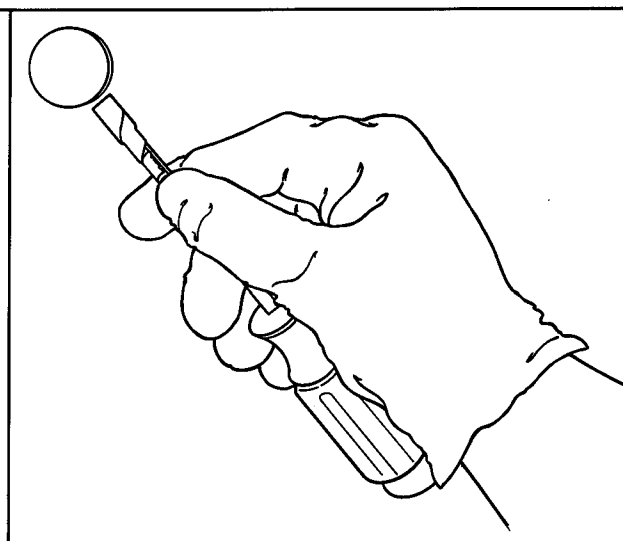

Figure 51
a. On refrigerated meat keeper refrigerators, pull plastic cap from air inlet port in back wall of refrigerator. See Figure 51.